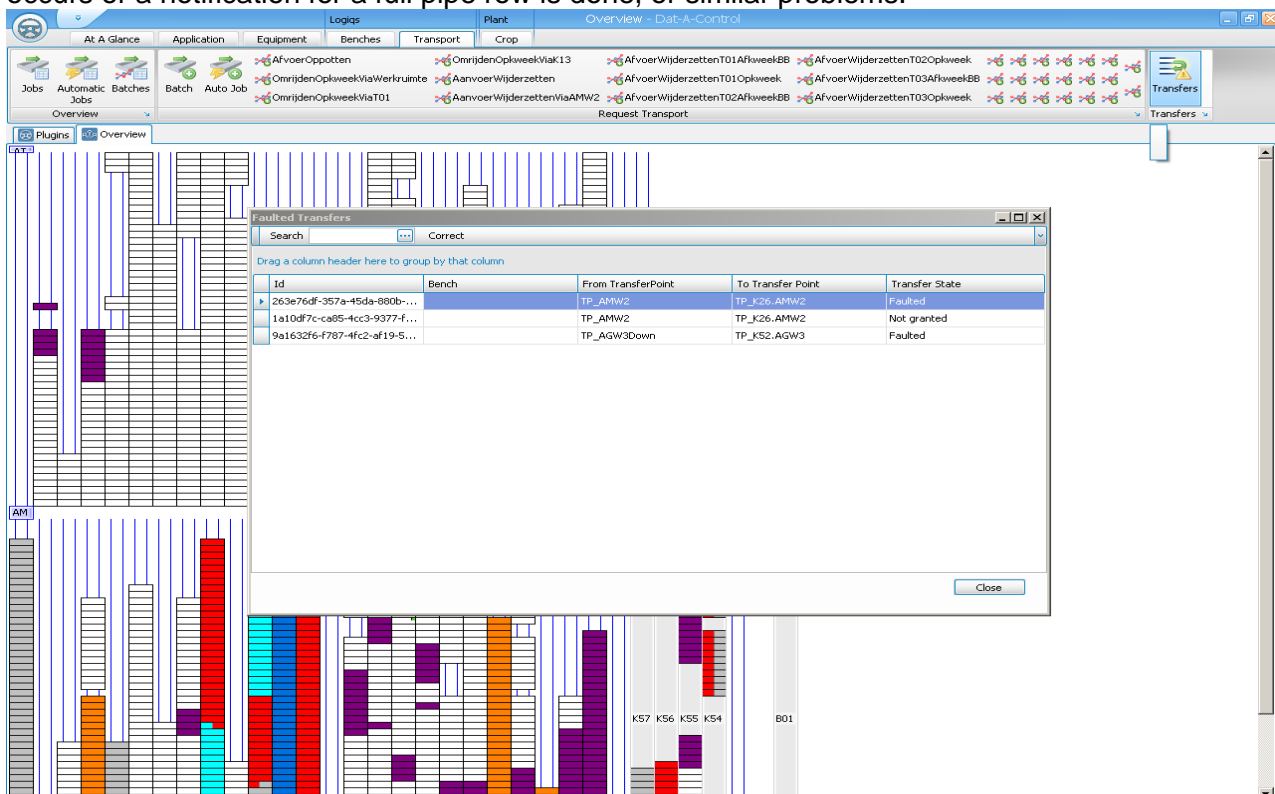

Figure 5.4 Faulted transfer overview
1. Check with "Transfers" in the tab Transport (figure 5.4) if there are transfers errors.